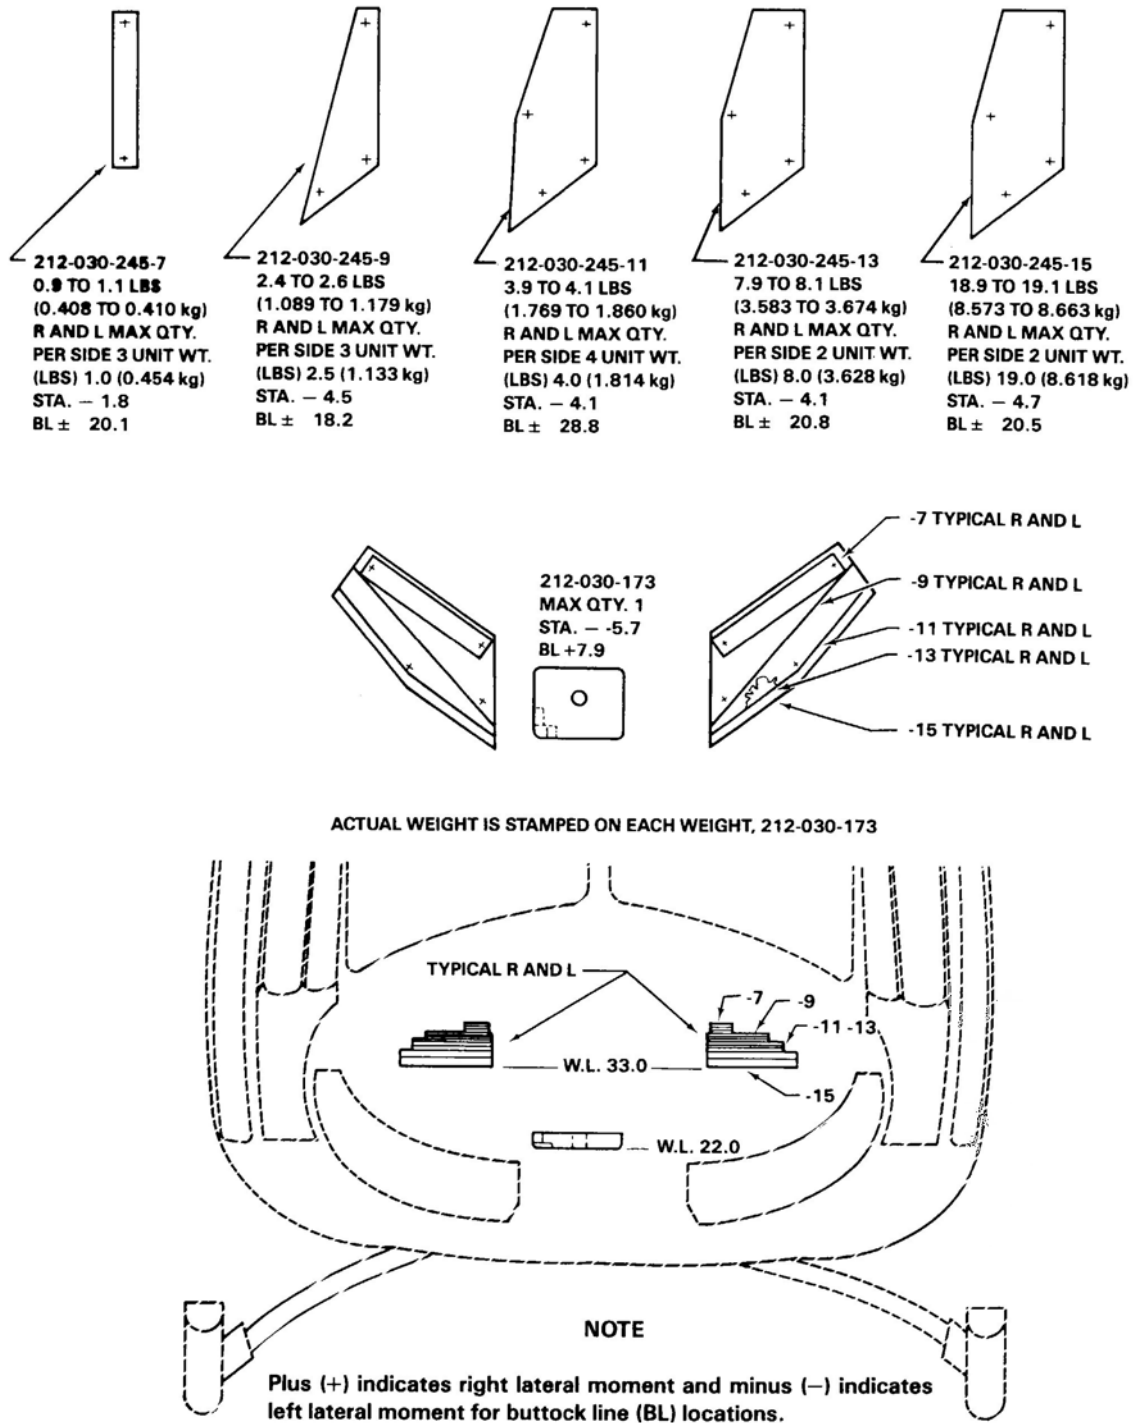

Figure 8-3. Nose Ballast
8.6.1 Determine amount of ballast to be added or removed and moment arm. Refer to Figure 8-3 for nose ballast station and butt line (B.L.) moment arms. Add or remove nose ballast weight as symmetrically as possible.
8.6.2 If ballast weight must be added, refer to Figure 8-3 to determine allowable number of ballast plates in each location. Inspect nose compartment to determine where additional ballast plates may be added.